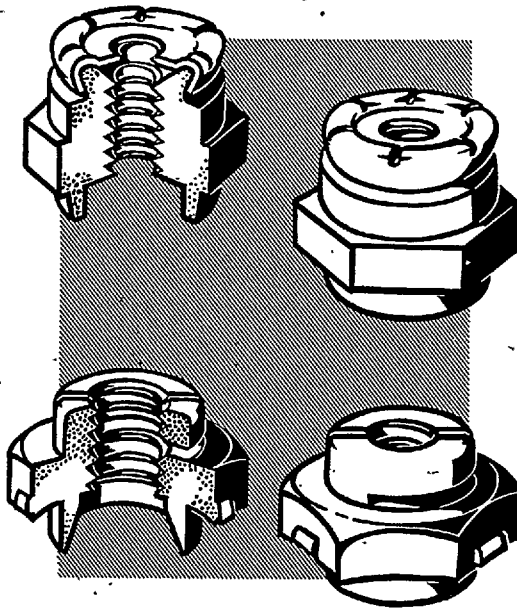
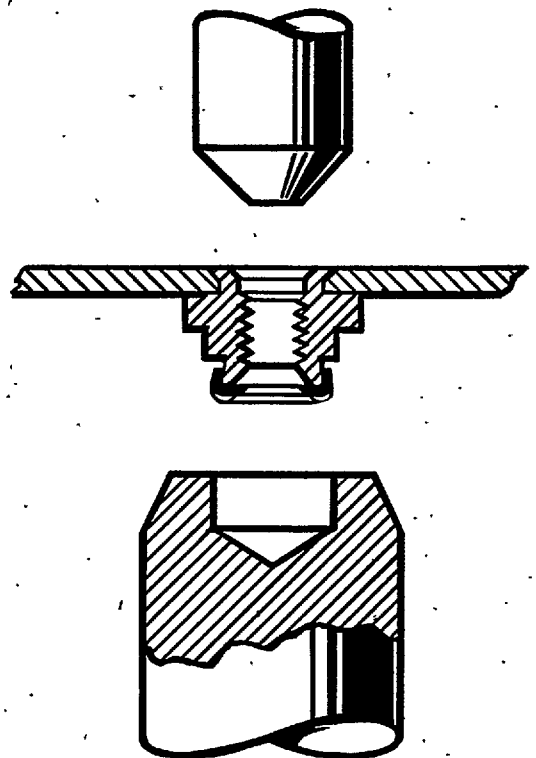

Fig. 5.—Clinch nuts
Fig. 6.—Clinching tools
9. Clinch nuts, see fig. 5, are normal stiffnuts which are mounted on their support by a flange at the bottom of the nut. The flange passes through a countersunk hole and is expanded by clinching tools as shown in fig. 6.